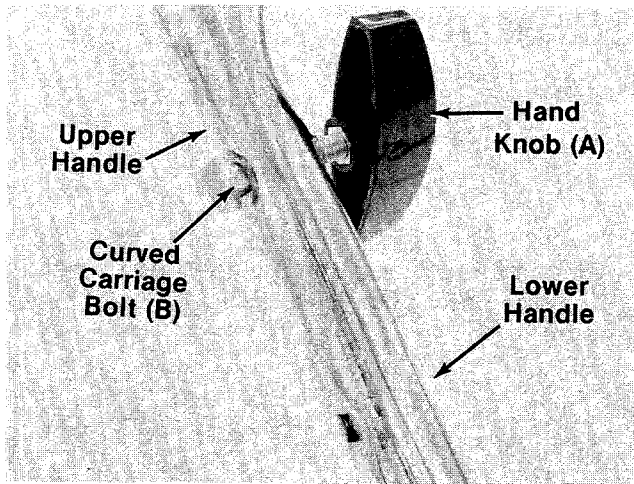

FIGURE 4.
- Place upper handle in position over lower handle. Secure with two carriage bolts (B) and hand knobs (A) as shown in figure 4. The knobs can be either to the inside or outside of the handle.